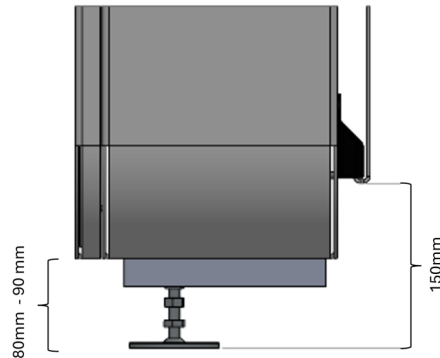

Figure 7 - Installation height of wall bracket.
8. Position the bracket on the wall ensuring that the bottom of the bracket is 150mm from the floor (Figure 7). Mark the desired mounting hole locations and install the mounting fasteners as per Table 2.
The distance between the floor and the bottom of the ElektroBank 14 enclosure will be between 80mm and 90mm depending on the depth at which the foot is threaded in. Refer to Figure 7.